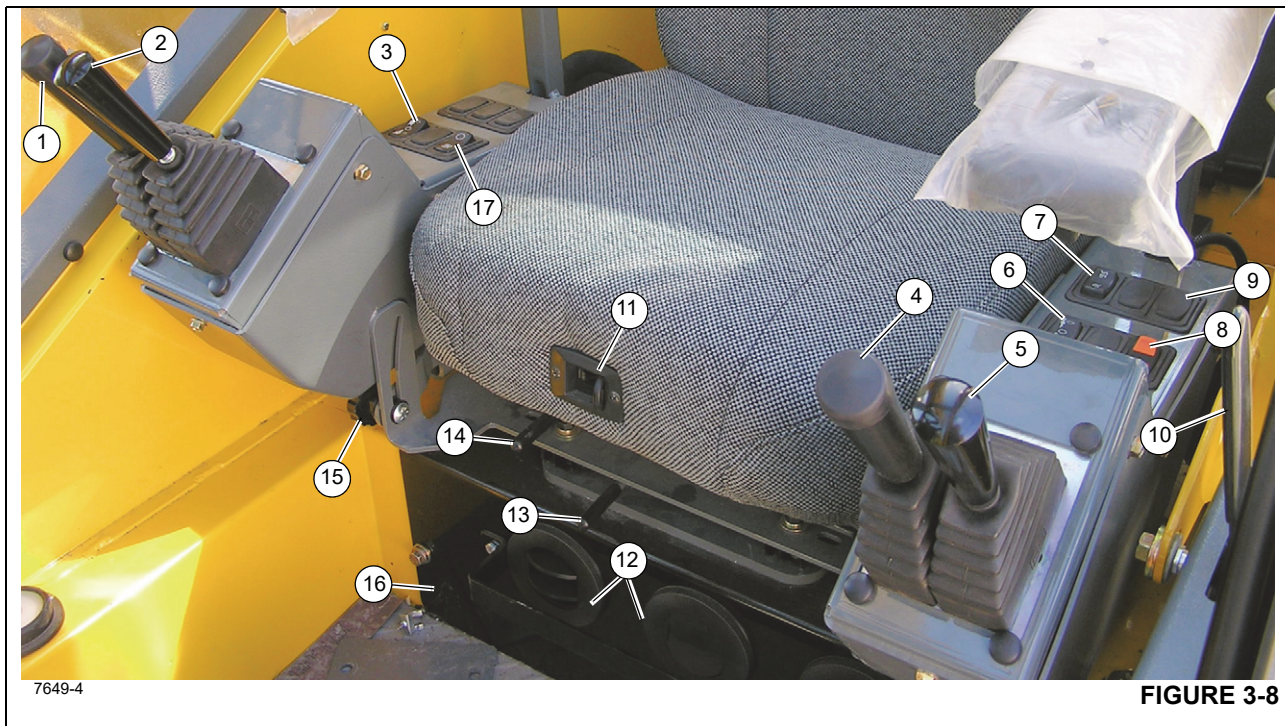

Figure 3-8 Item Numbers
The Axle Differential Locked Indicator (22) (Figure 3-6) is located in the steering column gauge display. This indicator illuminates amber after the Differential Lock Switch (10) (Figure 3-8) is pressed to the LOCK position and the carrier differential lock switches located on each axle are closed. When in the LOCK position there is no differential action between the wheels.
The Main Hoist Control (1) (Figure 3-8) is located on the right armrest. The joystick, when placed forward, lowers the cable. When placed back, it raises the cable.
The Boom Lift Control (2) (Figure 3-8) is located on the right armrest. The joystick, when positioned forward lowers the boom or back raises the boom.
The Main Hoist Speed Selector Switch (3) (Figure 3-8) is a three positioned maintained switch (HIGH/OFF/LOW) that is located on the right armrest. Positioning the switch to HIGH position allows main hoist functions and energizes the Main Hoist High Speed Solenoid, resulting in high line speeds. Positioning the switch to the center OFF position will prevent hoisting. Positioning the switch to the LOW position allows
The Telescope or Auxiliary Hoist (TELE or AUX) Control (4) (Figure 3-8) is located on the left armrest. The joystick controls the telescope functions when the crane is not equipped with an auxiliary hoist. Push the joystick forward to telescope the boom out, or pull the joystick back to telescope boom in.
The Auxiliary Hoist Speed Selector Switch (6) (Figure 3-8) is a three positioned maintained switch (HIGH/OFF/LOW) that is located on the left armrest. Positioning the switch to HIGH position allows auxiliary hoist functions and energizes the Auxiliary Hoist High Speed Solenoid, resulting in high line speeds. Positioning the switch to the center OFF position will prevent hoisting. Positioning the switch to the LOW position allows auxiliary hoist functions and de-energizes the Auxiliary Hoist High Speed Solenoid, resulting in low line speeds.
The Rear Steer Control Switch (7) (Figure 3-8) is a three-position, spring centered to off, rocker switch, located on the left armrest. Press the bottom of the switch to actuate a control valve to turn the rear wheels to the left, causing the crane to turn to the right. Pressing the top of the switch actuates a control valve to turn the rear wheels to the right, causing the crane to turn to the left. When the wheels are not centered the Rear Wheels Not Centered light on the steering column illuminates. Releasing the switch causes it to return to the center off position.
The Swing Brake Control Switch (8) (Figure 3-8) is located on the left arm rest. This two-position rocker switch (ON/OFF) is used to control a hydraulic valve that directs a regulated flow of pressure to and from the swing brake. Positioning the switch to ON will apply the swing brake and positioning the switch to OFF will release the swing brake. When the switch is in the ON position, the red indicator light on the steering column is illuminated. The switch has a lock to prevent accidental activation.
The Differential Lock (Axle Diff) Control Switch (9) (Figure 3-8) is located on the left arm rest. It is a two position, momentary rocker switch placarded LOCK and UNLOCK. When positioned to LOCK, the splines on the shift collar are engaged with the splines on the differential case and the axle shafts and the differential assembly are locked together and there is no differential action between the wheels. When positioned to UNLOCK, there is normal differential action between the wheels all the time. The amber indicator on the steering column is illuminated when the switch in each axle is activated.
Use the Cab Door Release Lever (10) (Figure 3-8) to open and close the cab door from inside the cab.
To adjust the back of the seat press the adjustment knob (11) (Figure 3-8) and then adjust the seat as needed.
The crane cab Air Conditioner/Heater Climate Control unit (16) (Figure 3-8) is located in the cab under the driver's seat. The vents (12) are part of the climate control unit and can be adjusted to direct the flow of air.
Moving the Seat Slide Lever (13) (Figure 3-8) will slide the seat only, either forward or backward.
Moving the Seat Frame Slide Lever (14) (Figure 3-8) will slide the seat and the seat frame either forward or backward.
The Armrest and armrest controls can be adjusted using the adjustment knob (15) (Figure 3-8). Loosen the knob and rotate the entire armrest to the desired position, retighten the knob when finished making the adjustment.
The Hoist Rotation Indicators for the auxiliary and main hoist is located on top of each hoist control lever (1,4) (Figure 3-8). Each indicator is electronically driven by an input signal from a sensor attached to its related hoist and an output signal from a control module. Each hoist control lever (1,4) pulses when its hoist is running so the operator's thumb can sense it.
The Hydraulic Boost Switch (17) (Figure 3-8) is located on the right armrest. This two position switch is used to control the High Speed Boost Selector Valve. With the switch in the ON position, the solenoid valve is energized. In this state, the solenoid valve stops the flow of oil from Pump No. 1, Section 2 to the Rear Steer/Outrigger Valve. The poppet check valve opens to combine this flow of oil with the output from Pump No. 1, Section 1.